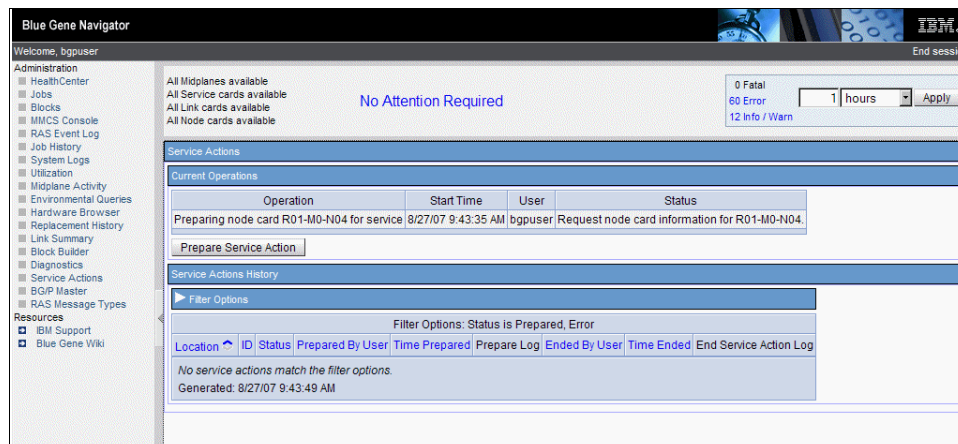

Figure 9-7 Initial Service Action page
4. You see a screen similar to Figure 9-7. If you click **Refresh** at the bottom of the window you see the status change as the Service Action progresses.